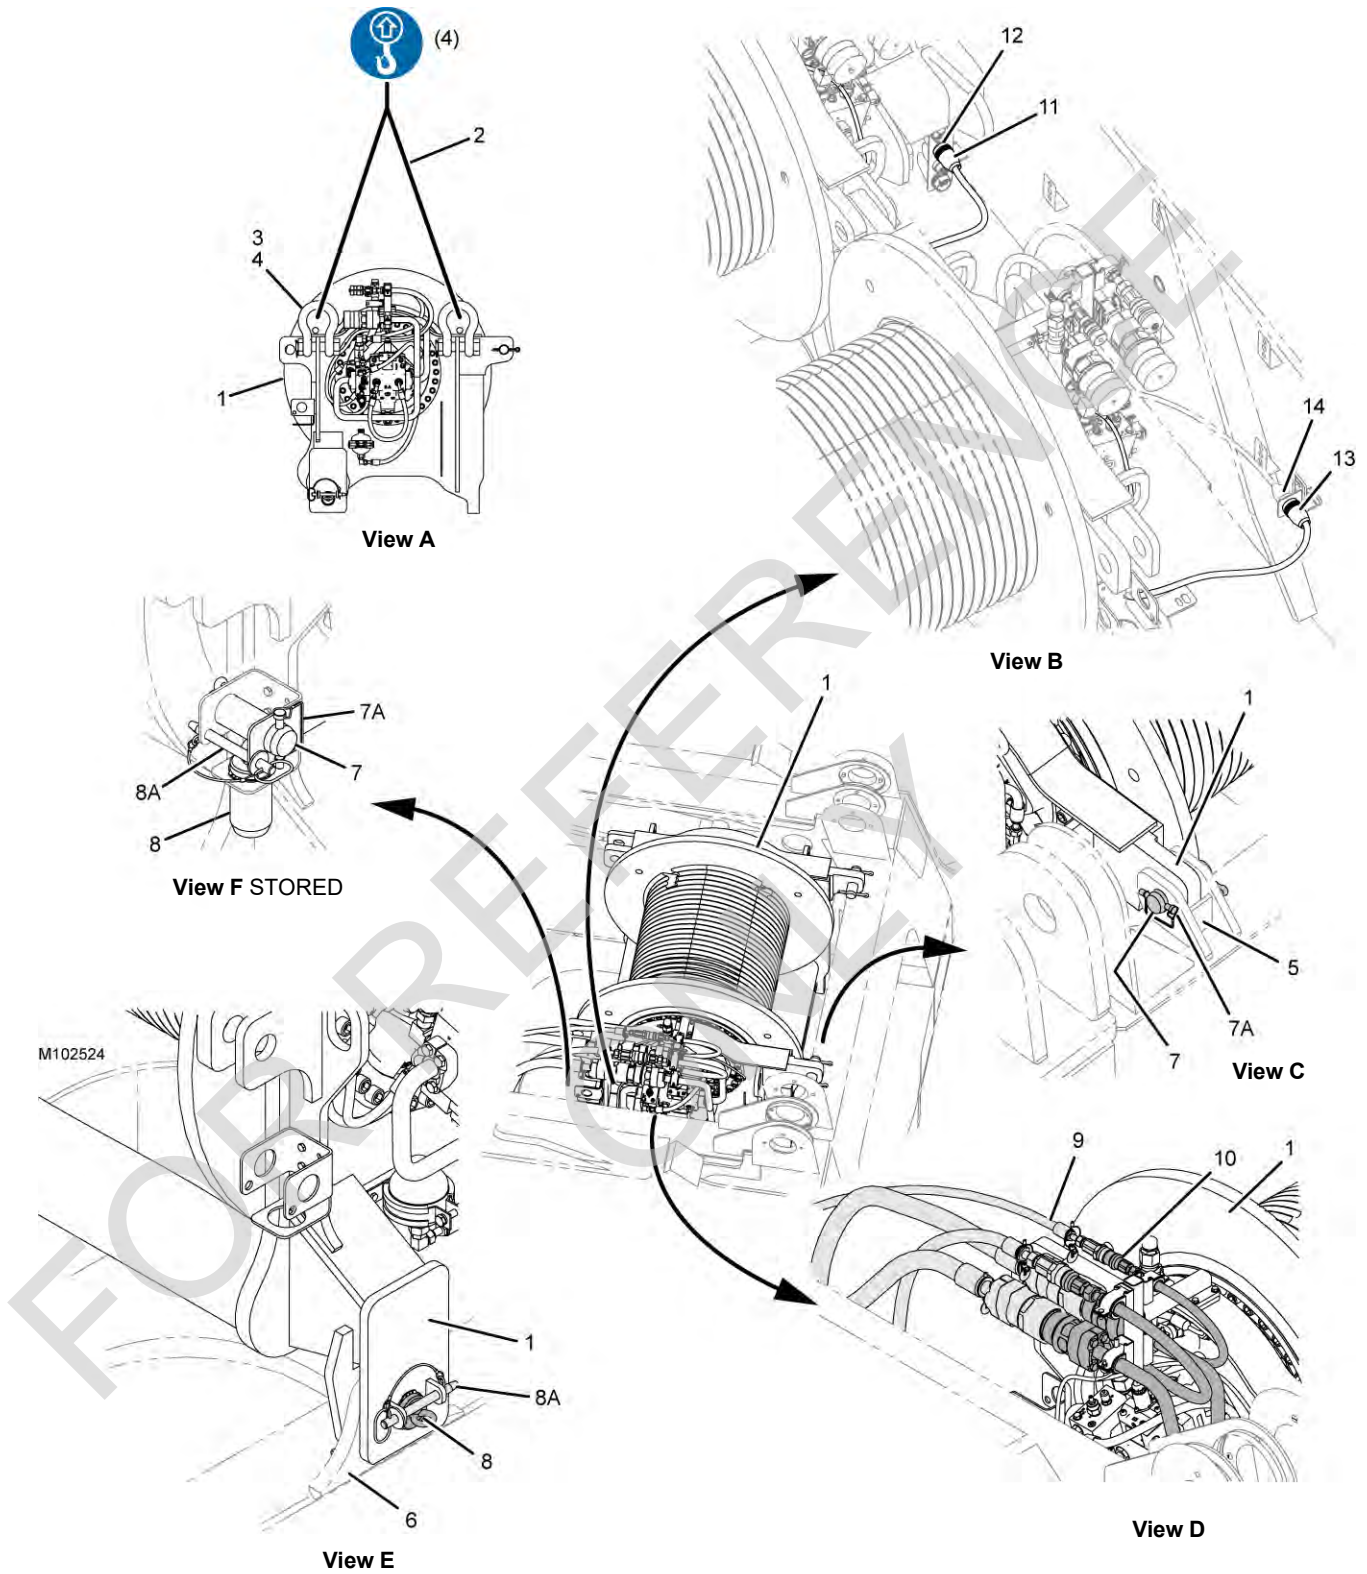

Figure 4-27
legend for Figure 4-27
See Figure 4-27 for the remaining steps.
- The electric cable (13, View B, Figure 4-27) from Drum 3 is connected to the electric receptacle (14) on the rotating bed.